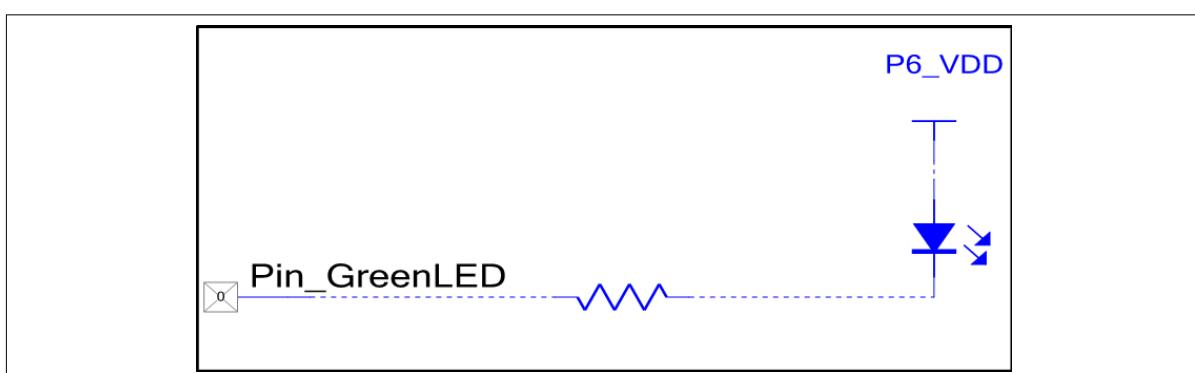

Figure 43 An output pin with off-chip components
- For a pin, if you enable **External terminal**, you can add external “off-chip” Components to a design. External Components on the schematic are included for descriptive purposes only; they have no effect on the generated code. Off-chip Components are optional, but can assist the hardware design team understanding how the design works. You can also add text boxes to a design with descriptions. Figure 43 shows how you could enhance the design for the LED. In this case, the off-chip components were configured with the **Instance_Name_Visible** option unchecked. The resistor was configured with the **Value** field left blank. The power terminal was configured with the **Supply_Name** set to **P6_VDD**